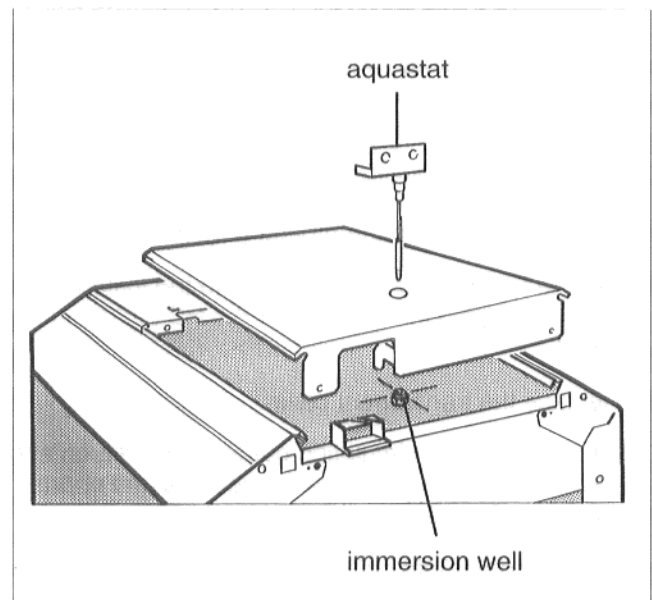

Fig. 21
- Break out knock-out piece from the rear boiler jacket (Fig. 21).